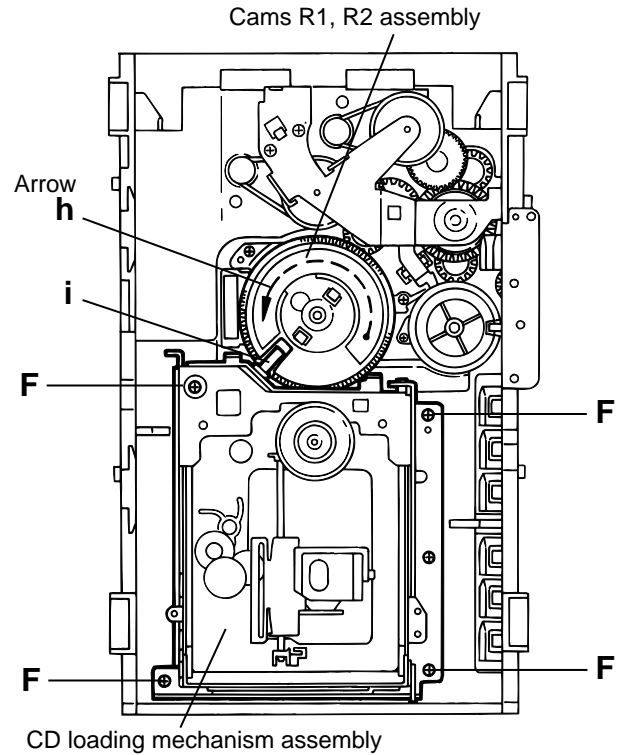

Fig.10
**Removing the CD loading mechanism assembly (See Fig.10)**
1. While turning the cams R1 and R2 assembly in the arrow direction "h", align the shaft "i" of the CD loading mechanism assembly to the position shown in Fig.10.